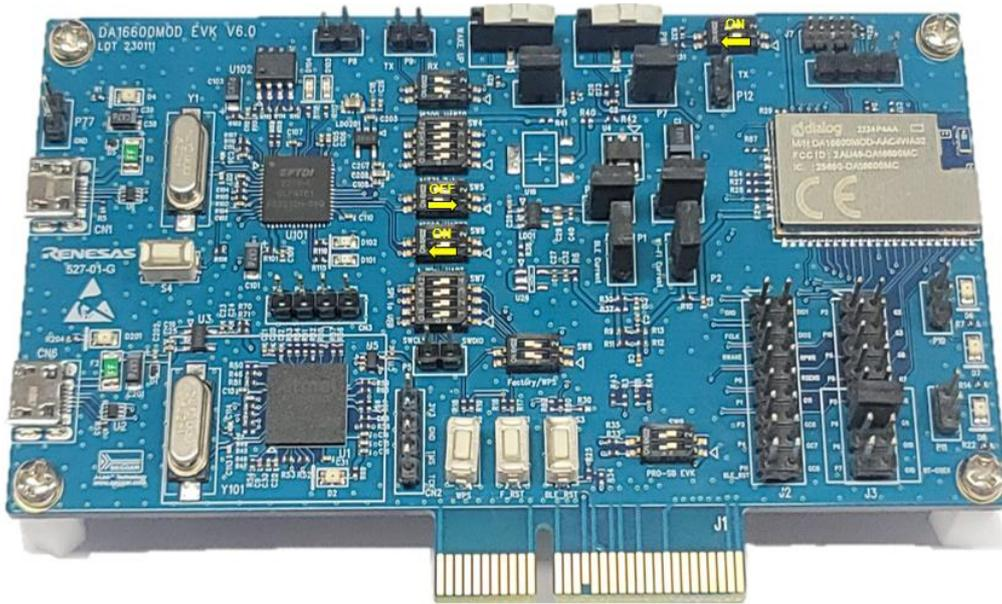
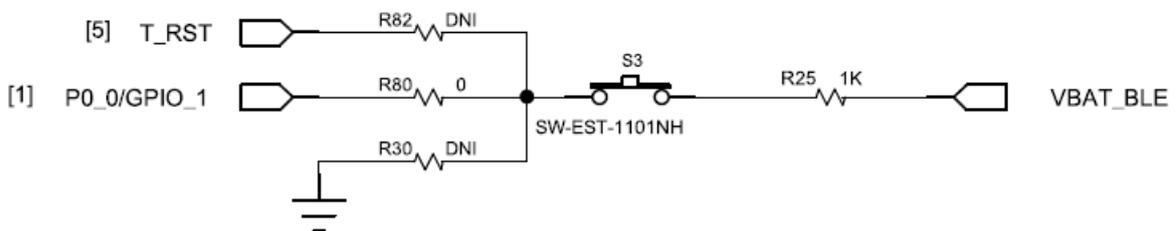
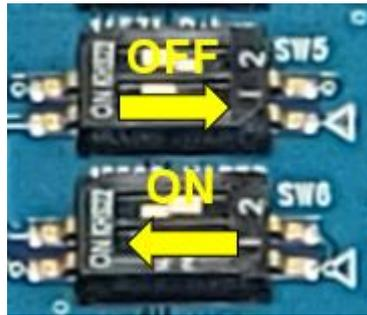
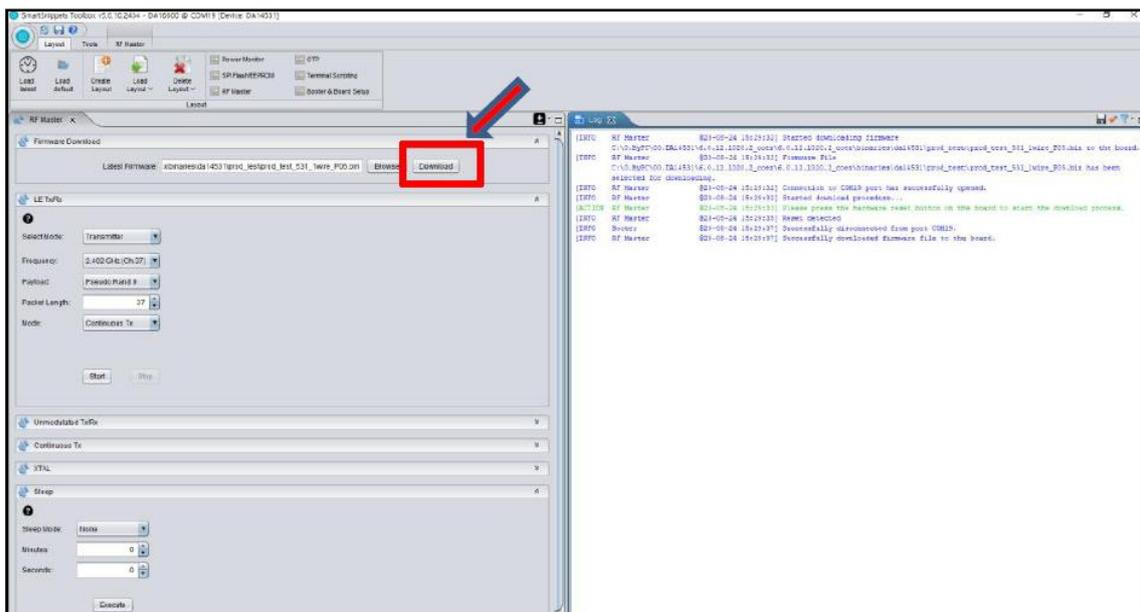

Figure 8: DA16600 EVB Setup for Bluetooth® LE Test
Figure 9: DA14531 Reset
Figure 10: SW5 and SW6 Setup
Figure 20: RF Master Log while Downloading Firmware and Reset
We provide a SmartSnippets tool to check the RF performance of Bluetooth® LE DA14531 and it is required to check the board before the test. The board should be configured to connect UART in DA16600 EVB and change the RF path of DA14531. Figure 8 shows how to configure the DA16600 EVB.
Figure 9 shows a circuit configured for DA14531 reset in DA16600 EVB. Switch (S3) on the DA16600 board or the #10 in Figure 8 is the reset button during the test. When the reset is required, make sure to release the Switch (S3) quickly after pressing the button.
For 1-wire (P0_5) UART to test RF performance of DA14531, turn on pin1 and 2 of SW6 to use UART and turn off pin 1 and 2 of SW5 as shown in Figure 10 and Figure 8.
7. Click **Download** and then **Reset HW** as shown in Figure 20, when the green text appears, click **Hardware Reset button - S3** in Figure 9 or #15 in Figure 8. If “reset detected” does not displayed in the log box, make sure to release the S3 button quickly after clicking it.